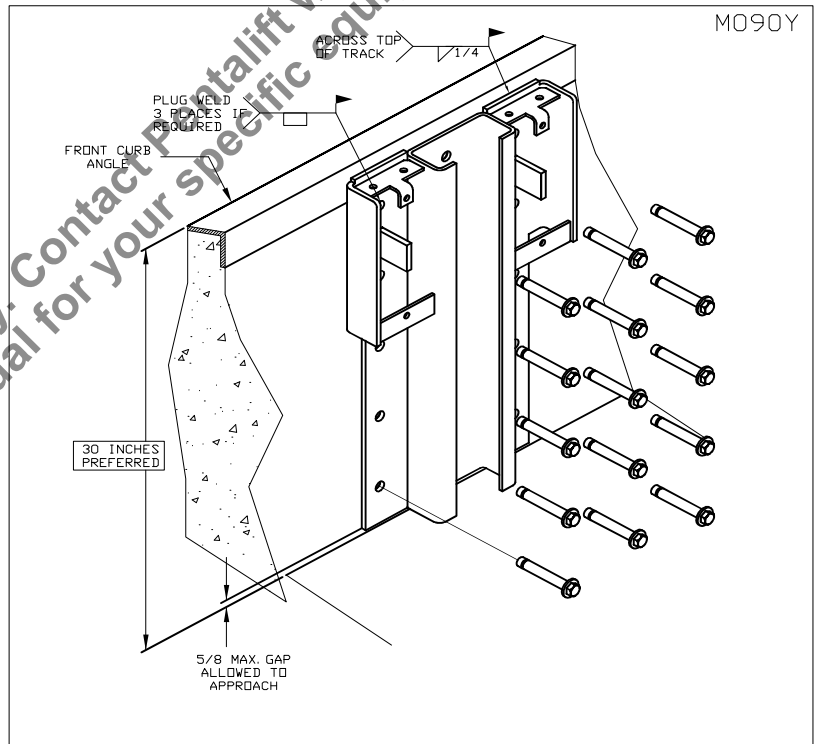

Figure 4: Anchoring Roller Track Weldment
4. ___ Install all anchors and torque to 100 ft-lbs (See "Figure 4: Anchoring Roller Track Weldment" on page 6 and See page 5 for anchors). **IMPORTANT: Do not use standard wedge anchors. Head of bolt may interfere with vertical movement of Carriage Assembly)**